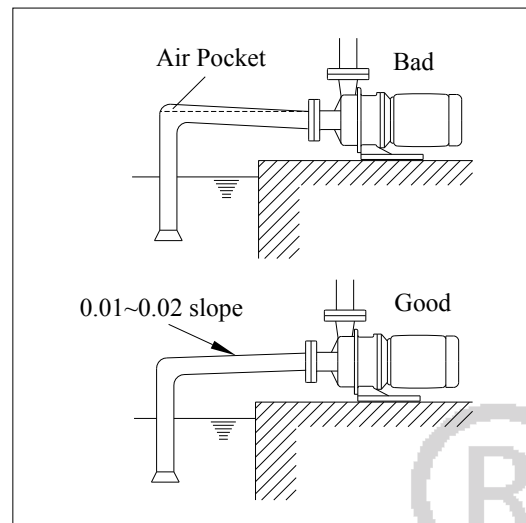

Fig. 4.2
(4) Effects of temperature changes should be factored into the support structure design to prevent thermal stress buildup. (5) Suction piping and connectors should be hermetically sealed to prevent drawing in air during operation. (6) The suction piping should not be allowed to collect air. There should be a 0.01~0.02 upward slope towards the pump (see Fig. 4.2). (7) There should not be any elbows within 5D (5 times diameter) distance from the pump opening. The elbow closest to the pump suction should be a long radial elbow.